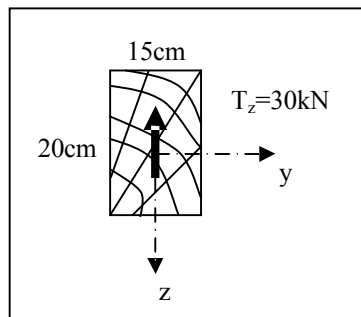

Fig.2
03) The maximum value of the shear stress τ_{\max} for the section represented in Fig. 2 is: